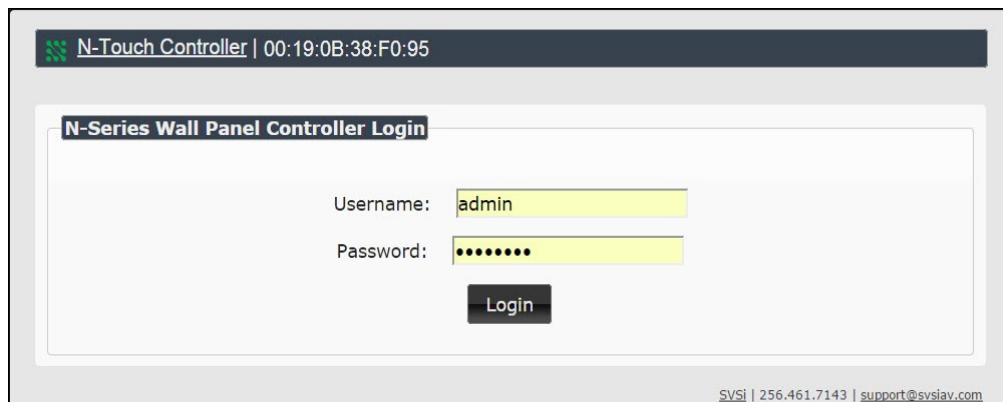

Figure 2-5. Login Screen
2. The **N-Series Wall Panel Controller Login** screen is displayed (Figure 2-5). Use the following default login credentials (**admin** and **password**) to log in for the first time.